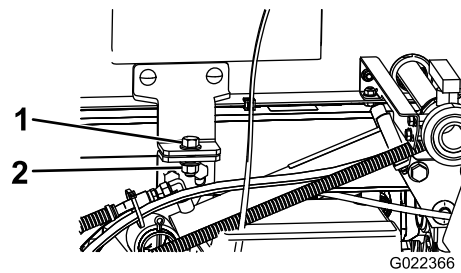

Figure 82
6. Remove the safety bolts from the front of the skid (Figure 82).